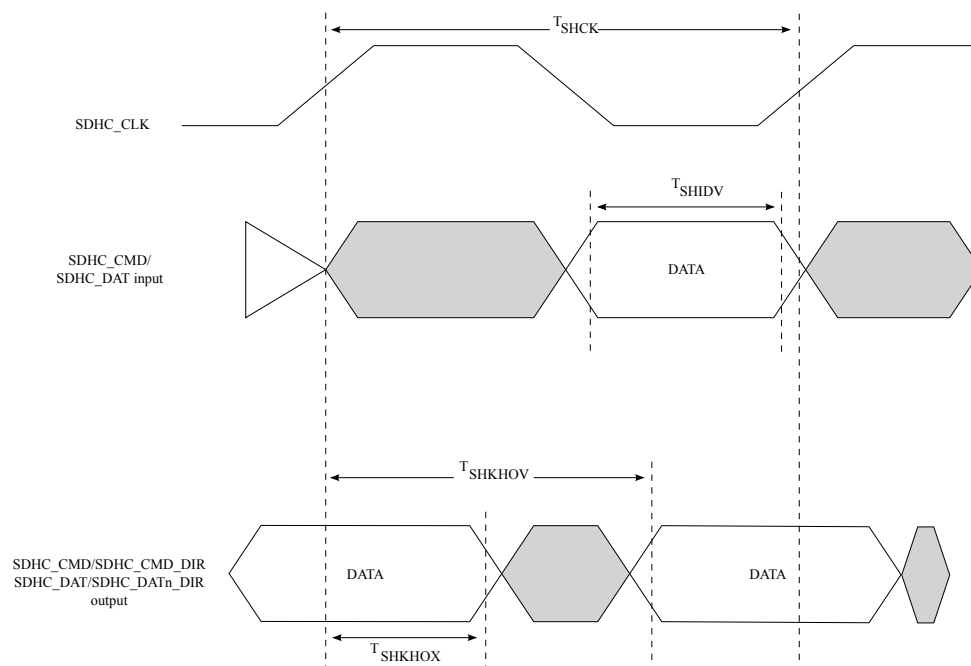

Figure 16. eSDHC SDR104/HS200 mode timing diagram
2. The symbols used for timing specifications herein follow the pattern of $t_{(\text{first two letters of functional block})(\text{signal})(\text{state})(\text{reference})(\text{state})}$ for inputs and $t_{(\text{first two letters of functional block})(\text{reference})(\text{state})(\text{signal})(\text{state})}$ for outputs. For example, t_{SHKH0X} symbolizes eSDHC highspeed mode device timing (SH) clock reference (K) going to the high (H) state, with respect to the output (O) reaching the invalid state (X) or output hold time. Note that in general, the clock reference symbol is based on five letters representing the clock of a particular functional. For rise and fall times, the latter convention is used with the appropriate letter: R (rise) or F (fall).
3. See Figure 16.
1. $C_L = C_{BUS} + C_{HOST} + C_{CARD} \leq 15\text{pF}$. 2. The symbols used for timing specifications herein follow the pattern of $t_{\text{(first two letters of functional block)(signal)(state) (reference)(state)}}$ for inputs and $t_{\text{(first two letters of functional block)(reference)(state)(signal)(state)}}$ for outputs. For example, t_{SHKH0X} symbolizes eSDHC highspeed mode device timing (SH) clock reference (K) going to the high (H) state, with respect to the output (O) reaching the invalid state (X) or output hold time. Note that in general, the clock reference symbol is based on five letters representing the clock of a particular functional. For rise and fall times, the latter convention is used with the appropriate letter: R (rise) or F (fall). 3. See Figure 17. 4. See Figure 18. 5. For HS400 without enhanced strobe (DQS) command, see Figure 16.